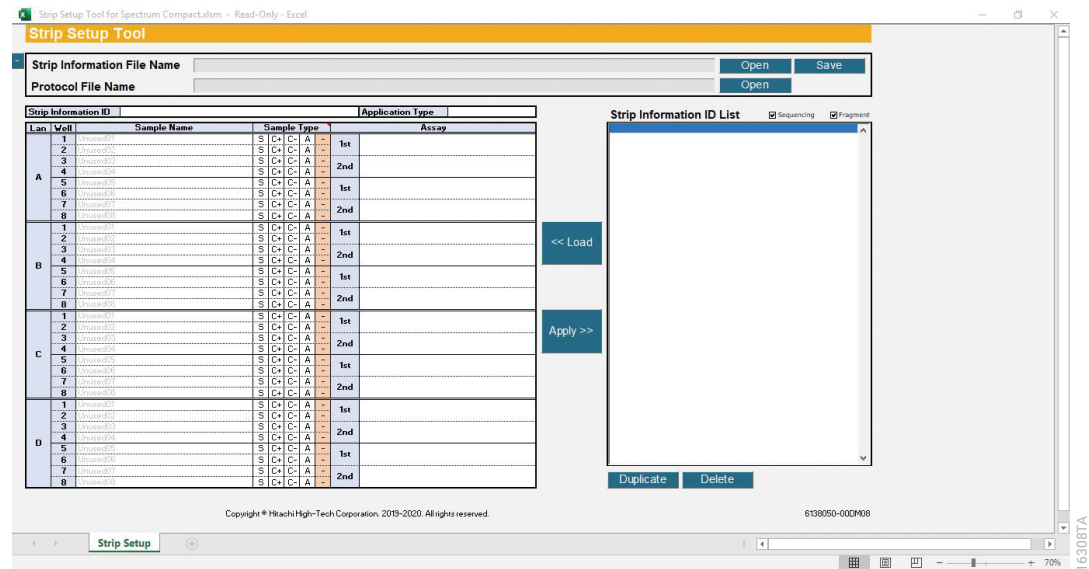
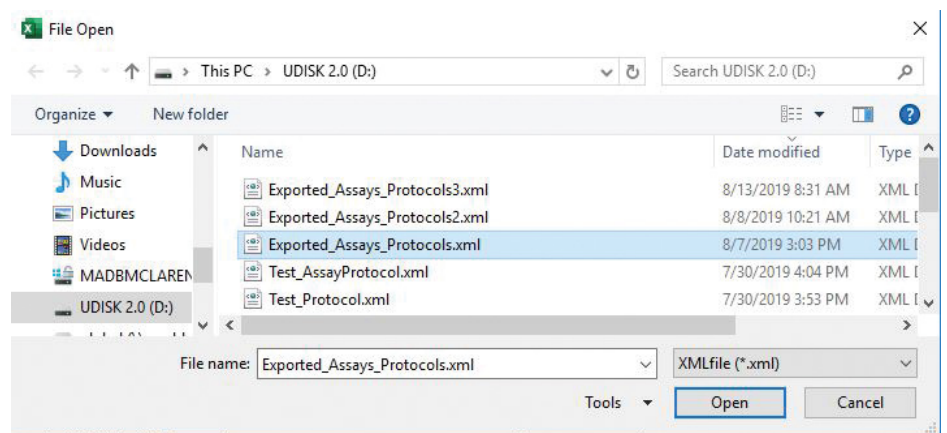

Figure 241. Strip Setup Tool for Spectrum Compact.
Figure 242. Browsing window.
1. Select **Open** on the right-hand side of the Protocol File Name box (Figure 241). This opens a browsing window. Browse to the location of the protocols .xml file created using the Protocols Setup Tool for Spectrum Compact and select **Open** (Figure 242). A Microsoft® Excel® window will appear stating “Protocol file read complete”.